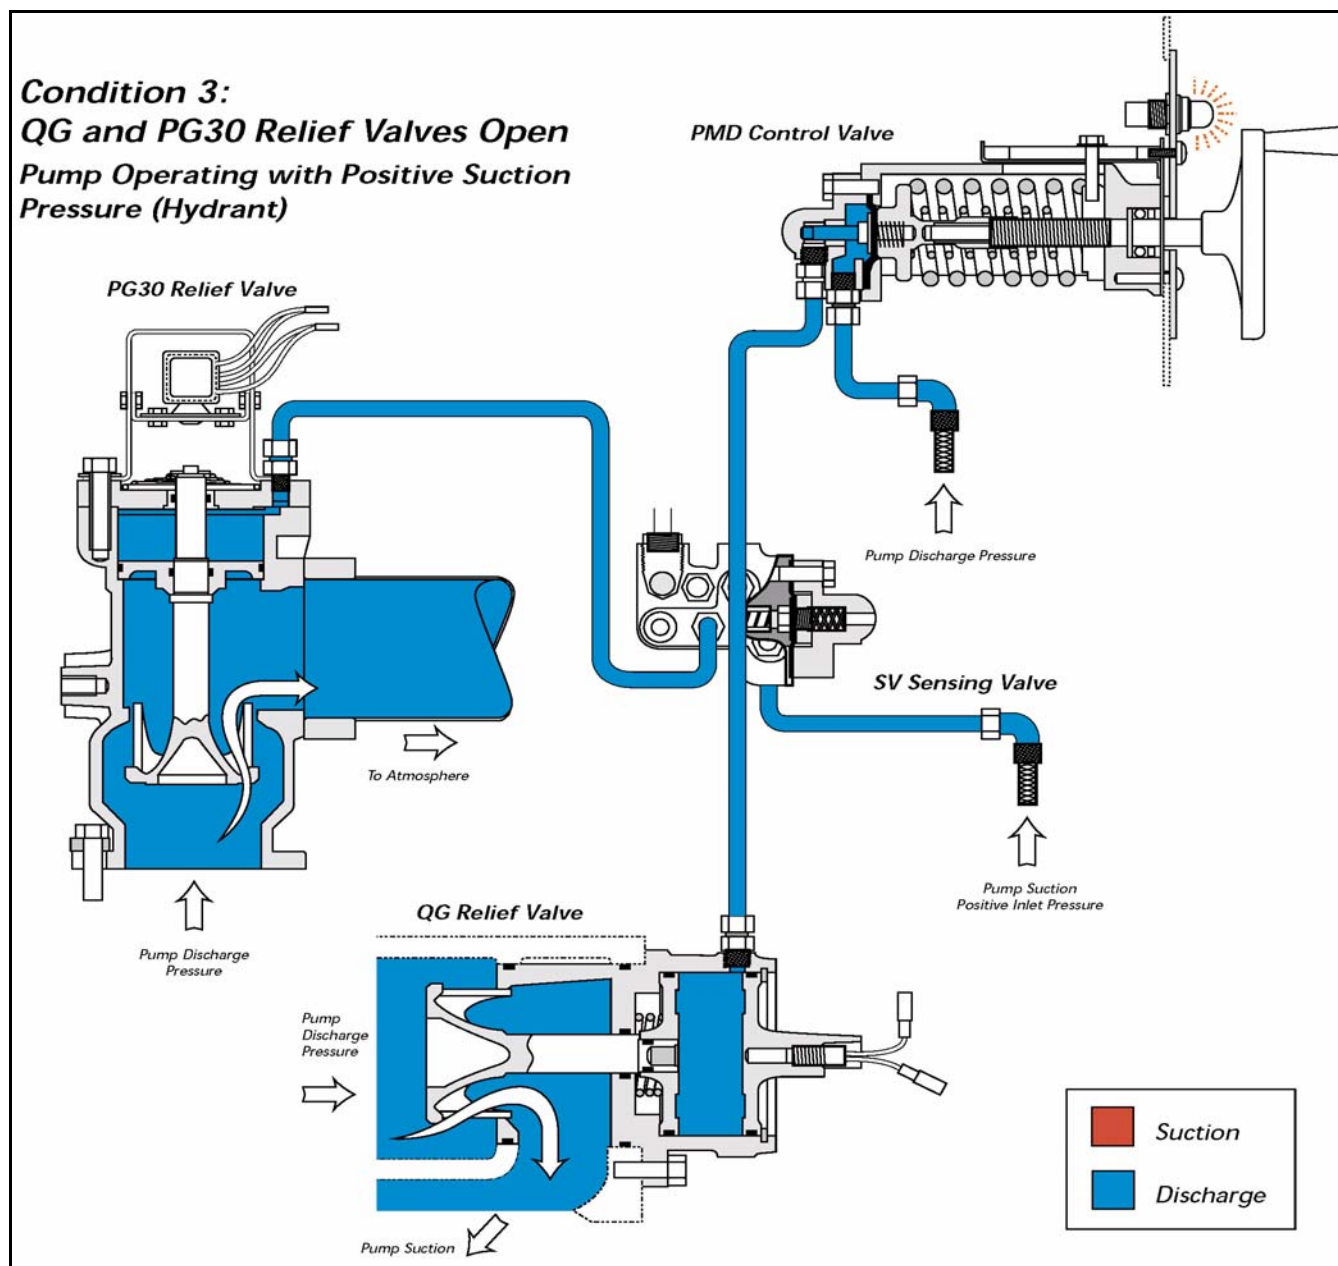

Figure 3-17: Typical TPM Relief Valve System, Condition 3
- ☐ Figure 3-17: “Typical TPM Relief Valve System, Condition 3” on page 52